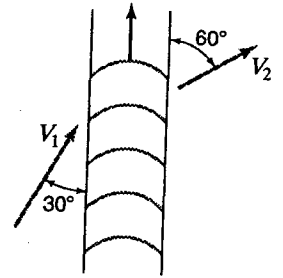

Figure P6.34
6.34 A 3-in-diameter air jet impinges on a series of blades, entering smoothly, and having absolute velocities  $V_1 = 200$  fps and  $V_2 = 150$  fps as shown in Fig. P6.34. Assume  $\gamma = 0.075$  lb/ft3, that the pressure is the same on both sides, and neglect friction. (a) What is the velocity of the blades and the power being transmitted to them? (b) Determine the blade angles necessary at entrance and exit.